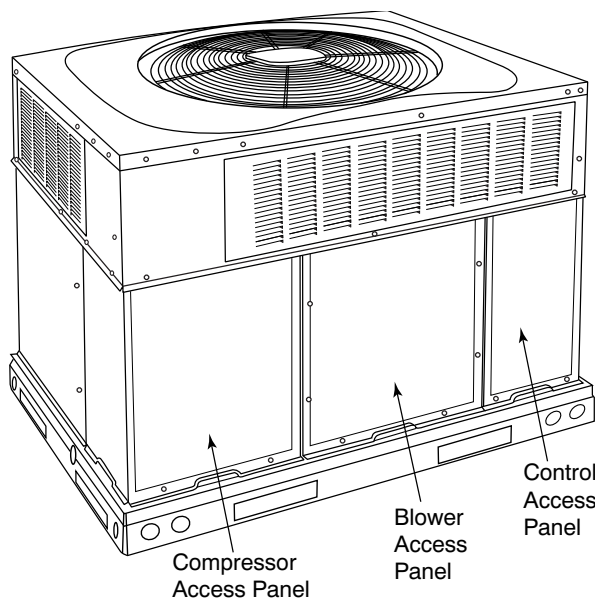

Fig. 22 – Unit Access Panels
- a. Remove blower access panel (see Fig. 22).
- g. Reinstall blower access panel (see Fig. 22).
Remove blower access panel (see Fig. 22). Limit switch(es) are located on the fan partition.
Remove access panels (see Fig. 22) to locate all the electrical controls and wiring. Check all electrical connections for tightness. Tighten all screw connections. If any smoky or burned connections are noticed, disassemble the connection, clean all the parts, re-strip the wire end and reassemble the connection properly and securely.